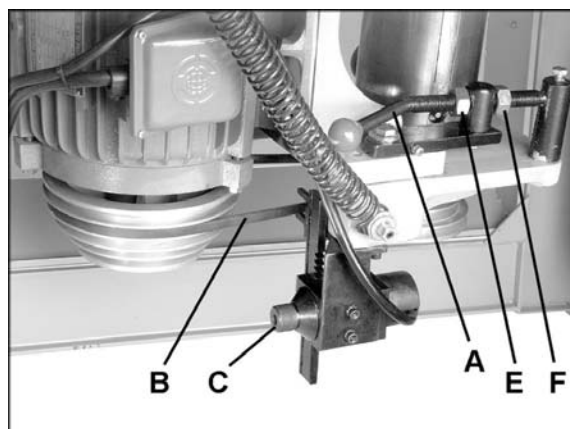

Figure 20
2. Open front cabinet door and move belt tension lever (A, Figure 20) to the right to loosen belt tension.
3. Move the belt (B, Figure 20) to the desired position on the pulleys, while at the same time rotate the knob (C, Figure 20) on the speed indicator so that the belt will remain positioned in the cut-out in the speed bar.
4. When the belt is positioned properly, move the tension lever (A, Figure 20) to the left.
NOTE: During the first use after speed adjustment, the belt will settle and produce a slight decrease in tension. To obtain best tension, turn the two nuts (E & F - Figure 20).